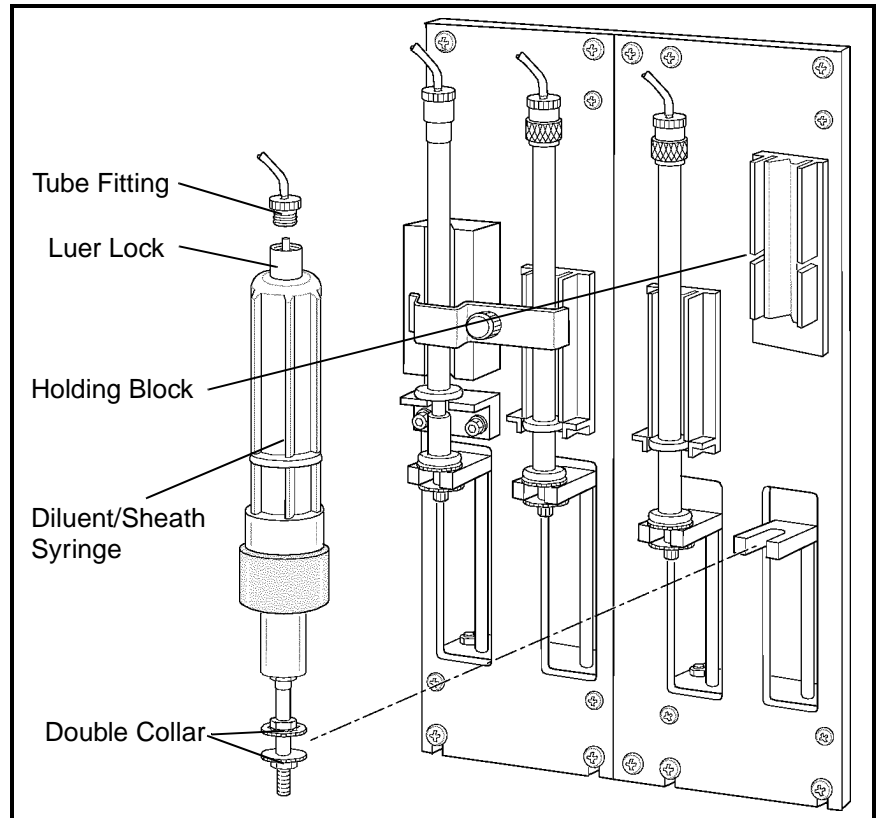

Figure 9.15: Diluent/Sheath Syringe Replacement
3. Locate the Diluent/Sheath Syringe (refer to Figure 9.15). Note that the plastic barrel of this syringe has four vertical edges, two of which fit into grooves on the holding block, and a circular plastic flange which also fits into a groove on the holding block.